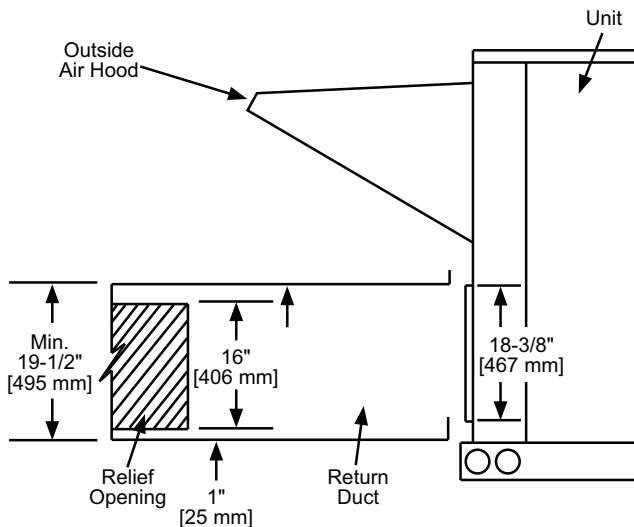

Fig. 34 — Relief Damper
1. Install the field provided horizontal ductwork onto the unit. Duct height must be at least 19-1/2 in. (495 mm) high, however the duct can be no taller than the top of the relief opening in the bottom panel, or airflow into the outside air hood will be restricted. See Fig. 34.
2. Cut a 16 in. x 36 in. (406 mm x 914 mm) opening in the return duct for the relief damper (see Fig. 34).